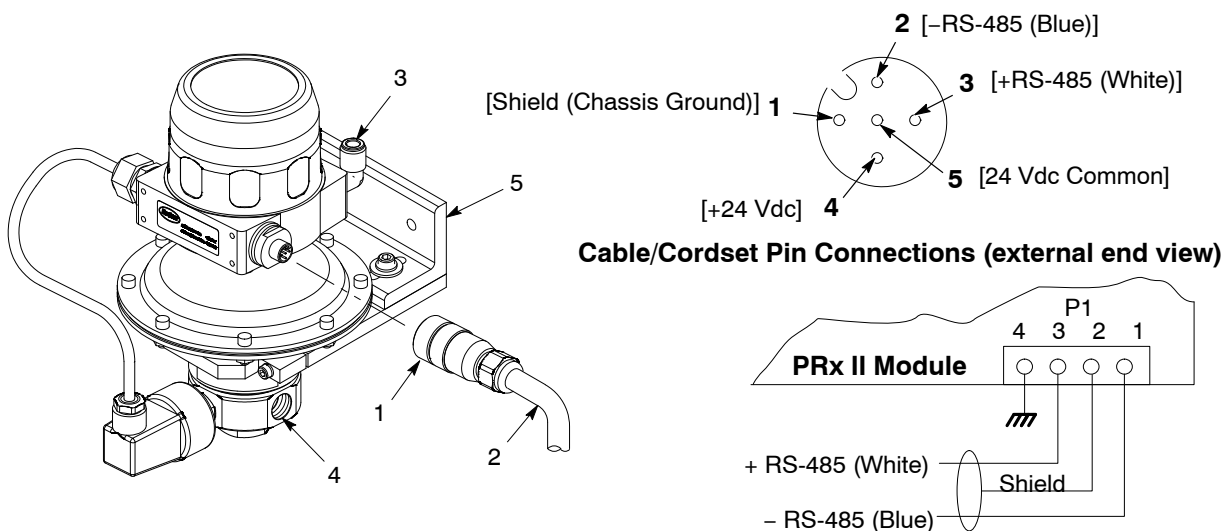

Figure 5 Pressure Controller Installation
See Figure 5. Use this procedure to connect the pressure controller to the PRx II module.
1. Mount the controller assembly. Refer to the *Parts* for the optional mounting bracket (5).
2. Use  $\frac{3}{8}$  in. NPT fittings to connect the fluid lines to the IN and OUT fluid ports (4).
3. Run a customer-supplied cable (Belden 3084A or equivalent) (2) from the PRx II module to the cordset connector (1).
4. Wire the cordset connector as shown in Figure 5. Wire ferrules are recommended for connections to pins 1 thru 4.
6. Connect the RS-485 wiring to the PRx II module P1 terminal block as shown in Figure 5.
7. Connect a source of compressed air to the air inlet port (3). Input air should be filtered and supplied at 5.5 bar (80 psi) minimum.